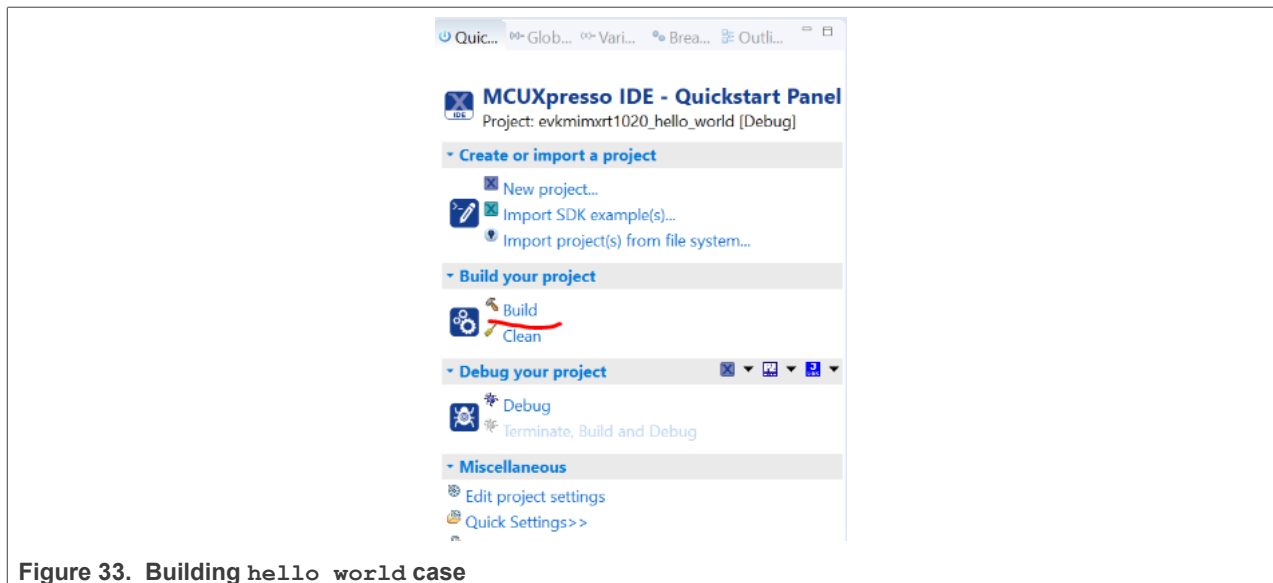

Figure 33. Building hello world case
- On the **Quickstart** panel, click **build evkmimxrt1024_demo_apps_hello_world [Debug]**, as shown in Figure 33.